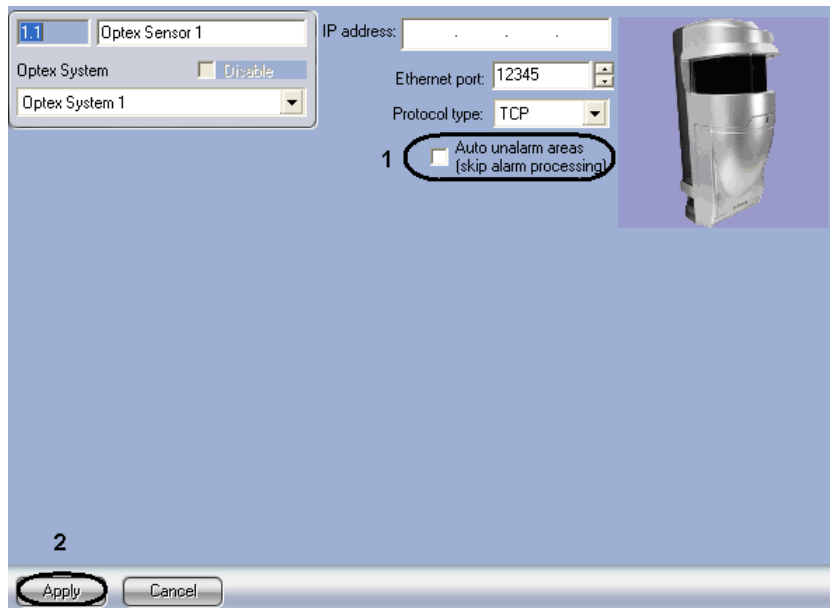

Fig. 3.4—1 Selecting the alarm processing method
1. Go to the setup panel of the relevant **Optex Sensor** object (Fig. 3.4—1).
2. To process alarms automatically, select the **Auto unalarm areas (pass process alarm)** checkbox (Fig. 3.4—1, 1). To process alarms with the operator, deselect the checkbox.
3. Click **Apply** to save the changes (Fig. 3.4—1, 2).